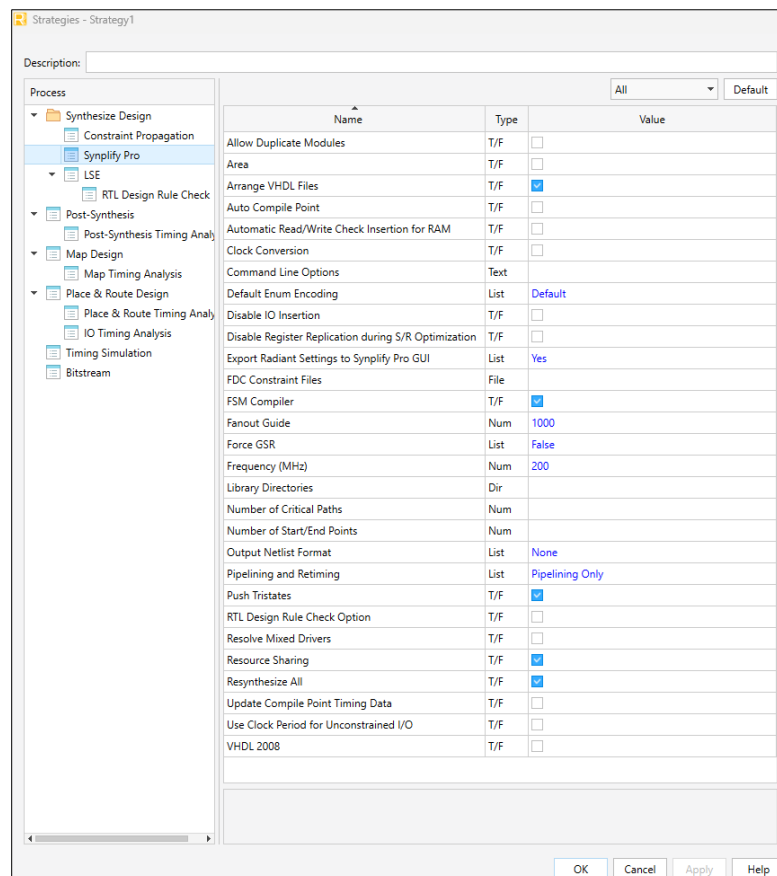
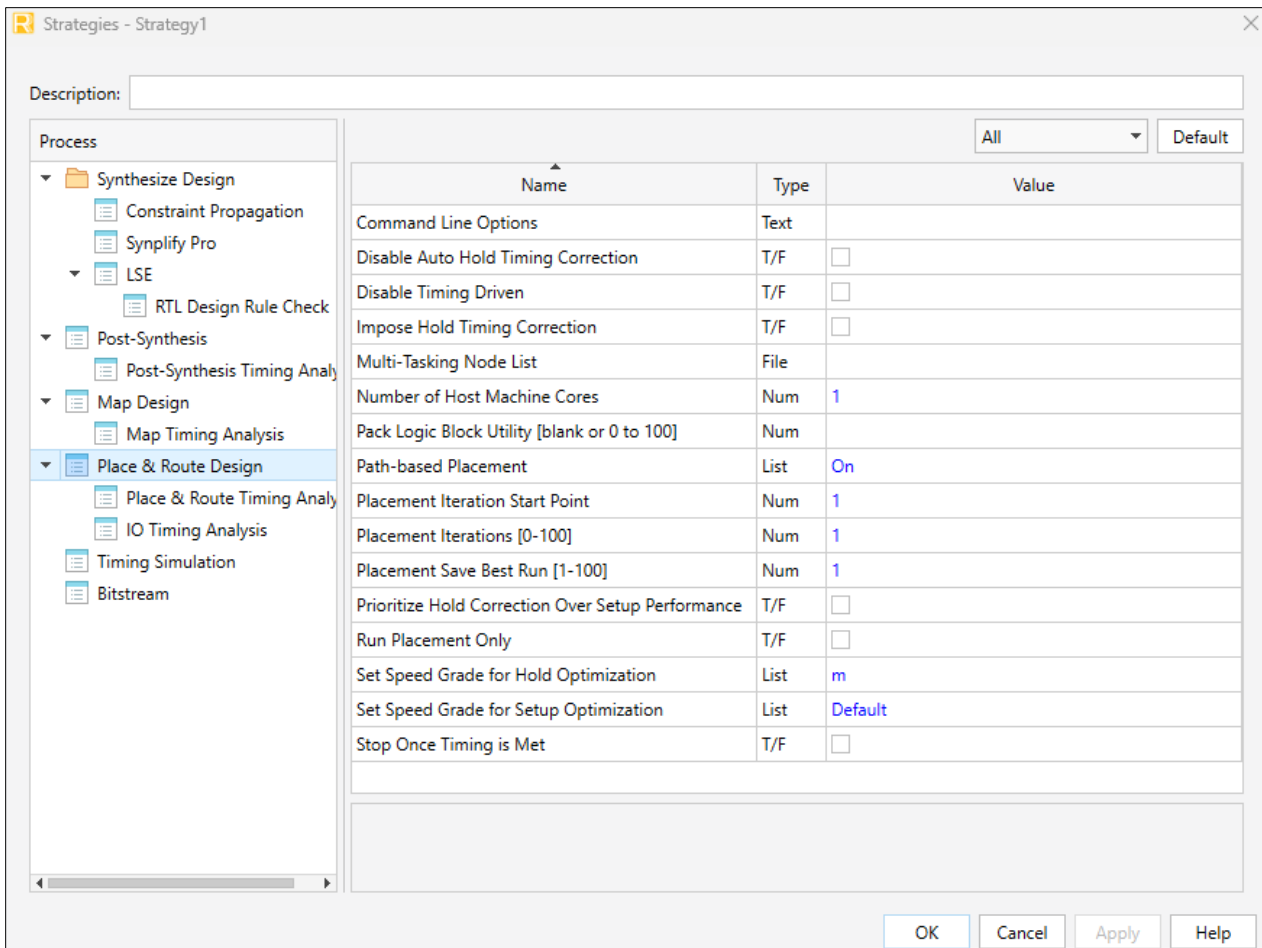

Figure 5.18. Synthesis Strategy Settings
Figure 5.19. Place and Route Design Strategy Settings
10. Set the synthesis strategy (Figure 5.18) and the Place and Route design strategy (Figure 5.19).